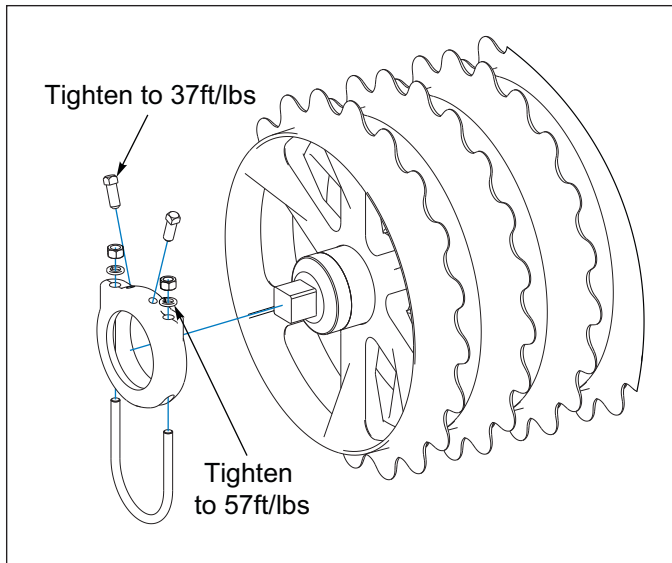

Figure 4-2: Axle Clamp
4. Tighten the U-bolt evenly to 57 ft/lbs (U-bolt must be tightened first.) **See Figure 4-2.**